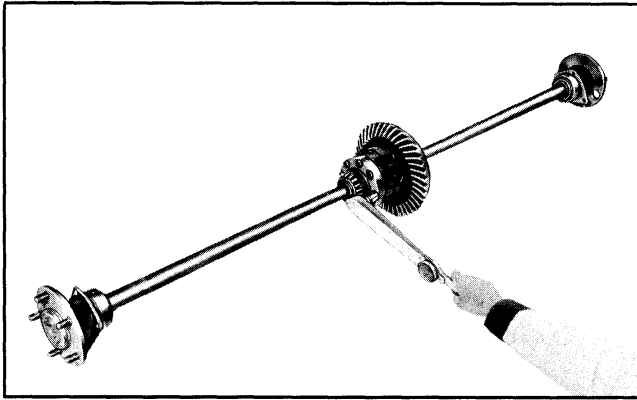

Fig. 4-69 Torquing Differential Case Half Bolts
8. With these axle shafts in position, tighten the differential case bolts evenly, and alternately to 40 lb. ft. torque (Fig. 4-69). Remove the axle shafts.